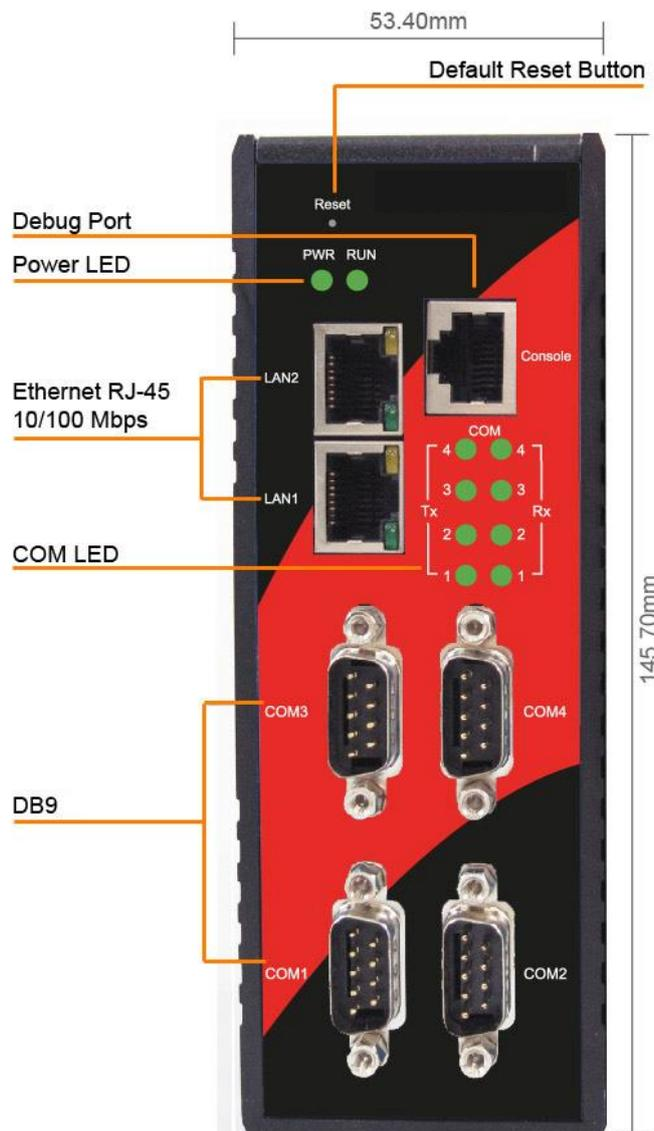

Figure 2.1 Front Panel Interfaces
- Figure 2.1 Show the names of STE-6104C components.